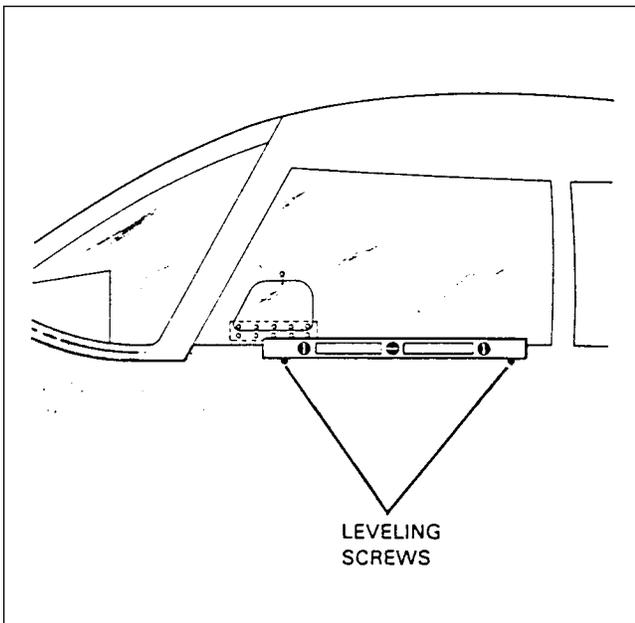

Figure 8-2. Leveling Longitudinally
1. To longitudinally level airplane. Partially withdraw two leveling screws immediately below the left front side window. (Refer to figure 8-2.) Place level on screw heads and adjust jacks until level is centered. If airplane is either on scales or on noor, block main gear oleos to full extension. Deflate nose wheel until proper position is reached.